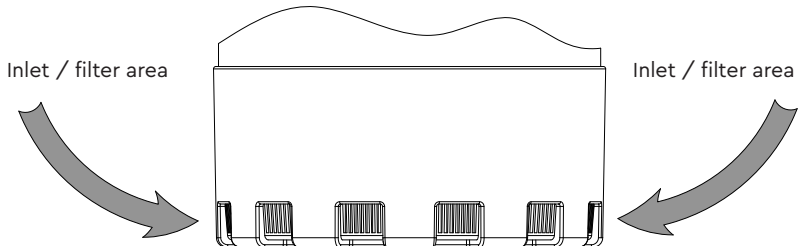

Fig. 2
- 2.15 **Pump position:** When siting the pump ensure its base is raised slightly from the bottom of the sump reducing the possibility of blocking the filter with debris or drawing in small stones (see Fig. 2).